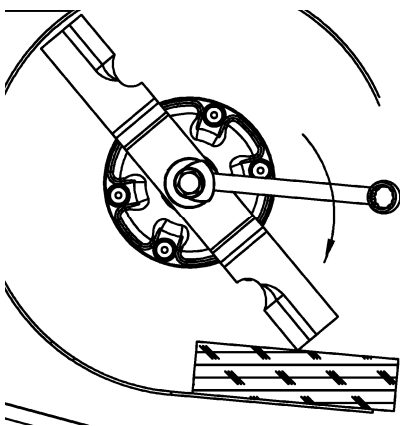

Fig. 15
- Use a block of wood to prevent the mower blade from Turning. (Refer to Fig. 15)